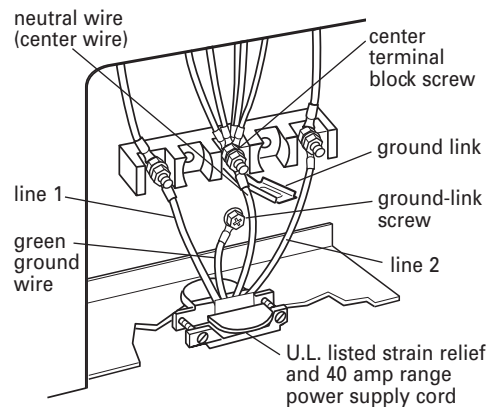

Figure 2
8. Connect the green ground wire from power supply cord to the range using the ground-link screw. The ground wire must be attached first and must not contact any other terminal. See Figure 2.
10. Connect the neutral wire (center wire) to the center terminal screw on the terminal block. See Figure 2.
11. Connect the other two wires (lines 1 and 2) to the outer screws on the terminal block. See Figure 2.